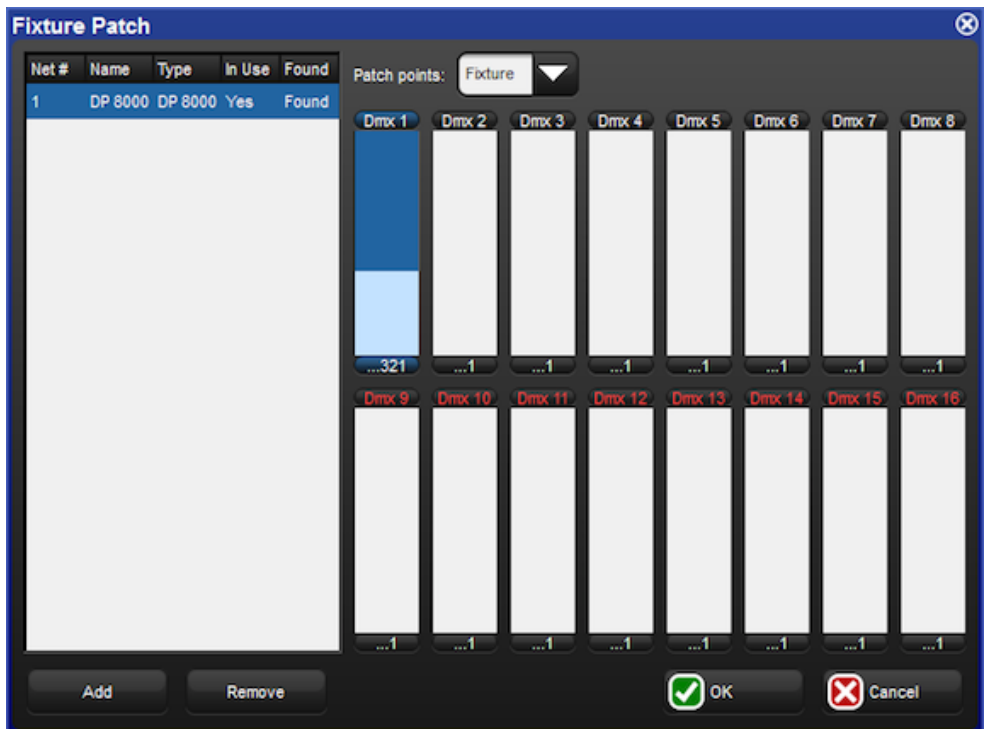

Figure 5.2. The Fixture Patch window
2. Select the fixture fixtures you wish to patch and then press the Patch @ button to open the Fixture Patch window. See Figure 5.2, “The Fixture Patch window”.